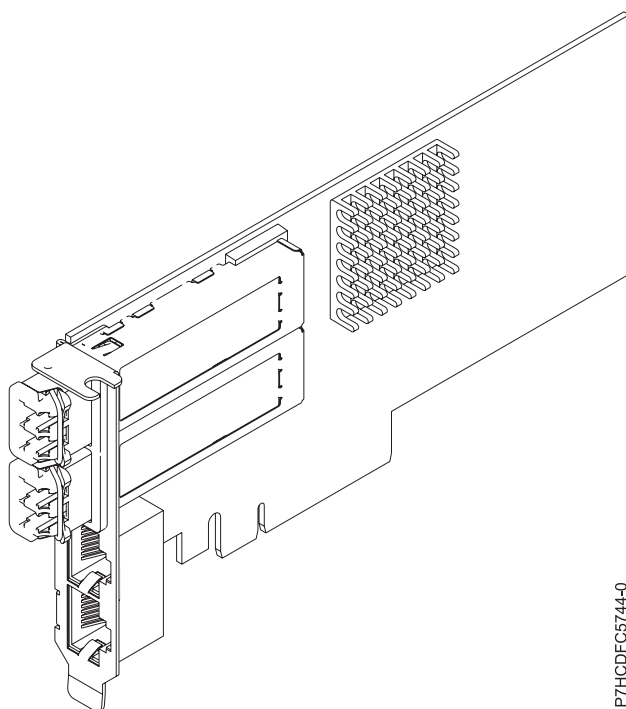

Figure 40. PCIe2 LP 2x10GbE SR 2x1GbE UTP adapter
The PCIe2 LP 2x10GbE SR 2x1GbE UTP adapter is a PCI Express generation-2, four-port Ethernet unified wire adapter with a PCI Express 2.0 host bus interface. The adapter is optimized for cloud computing, virtualization, storage, and other data center applications. The four port adapter provides two 10 Gb Ethernet ports and two 1 Gb Ethernet ports. The two 10 Gb small form-factor pluggable (SFP+) single root (SR) transceiver ports are used for connectivity with other servers or switches in the network. Each SFP+ (SR) port provides Ethernet connectivity with a nominal data rate of 10 Gbps (gigabits per second), and uses the SFP+ copper twinaxial cables up to 5 m (16.4 ft) in length. Each of the RJ45 ports provides Ethernet connectivity at a data rate of 1 Gbps. The link aggregation and failover features of the adapter are ideal for critical network applications that require redundancy and high availability. Figure 40 shows the FC 5745 adapter.